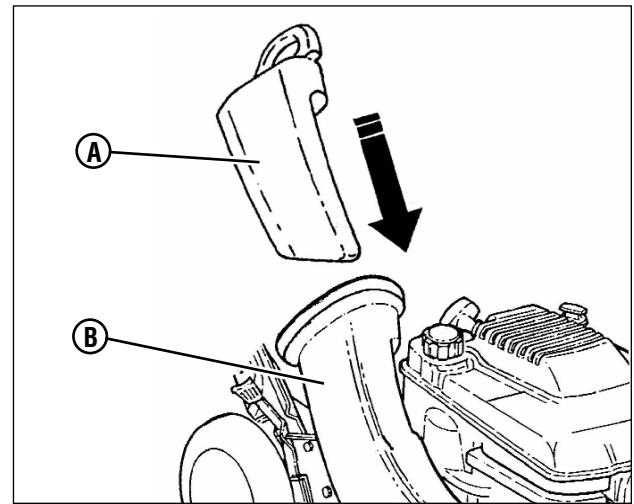

Figure 13: Installing the recycling plug
1. Install the recycling plug (A, Figure 13) if recycling is desired after the bag adapter is installed. Install the recycling plug completely and securely into the bag adapter (B).